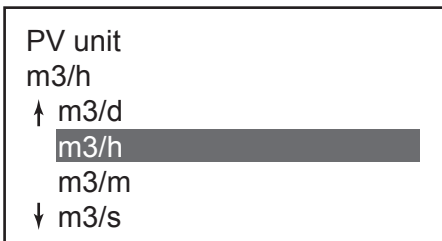

Fig. 7-6. Selection of flow rate
4. Once the display as shown in Fig. 7-6. appears, move the arrow key up or down to select a flow unit. After making a selection, press F4 (ENTER). If F3 (ESC) is pressed here, the selection will be canceled and the display will return to the basic menu.